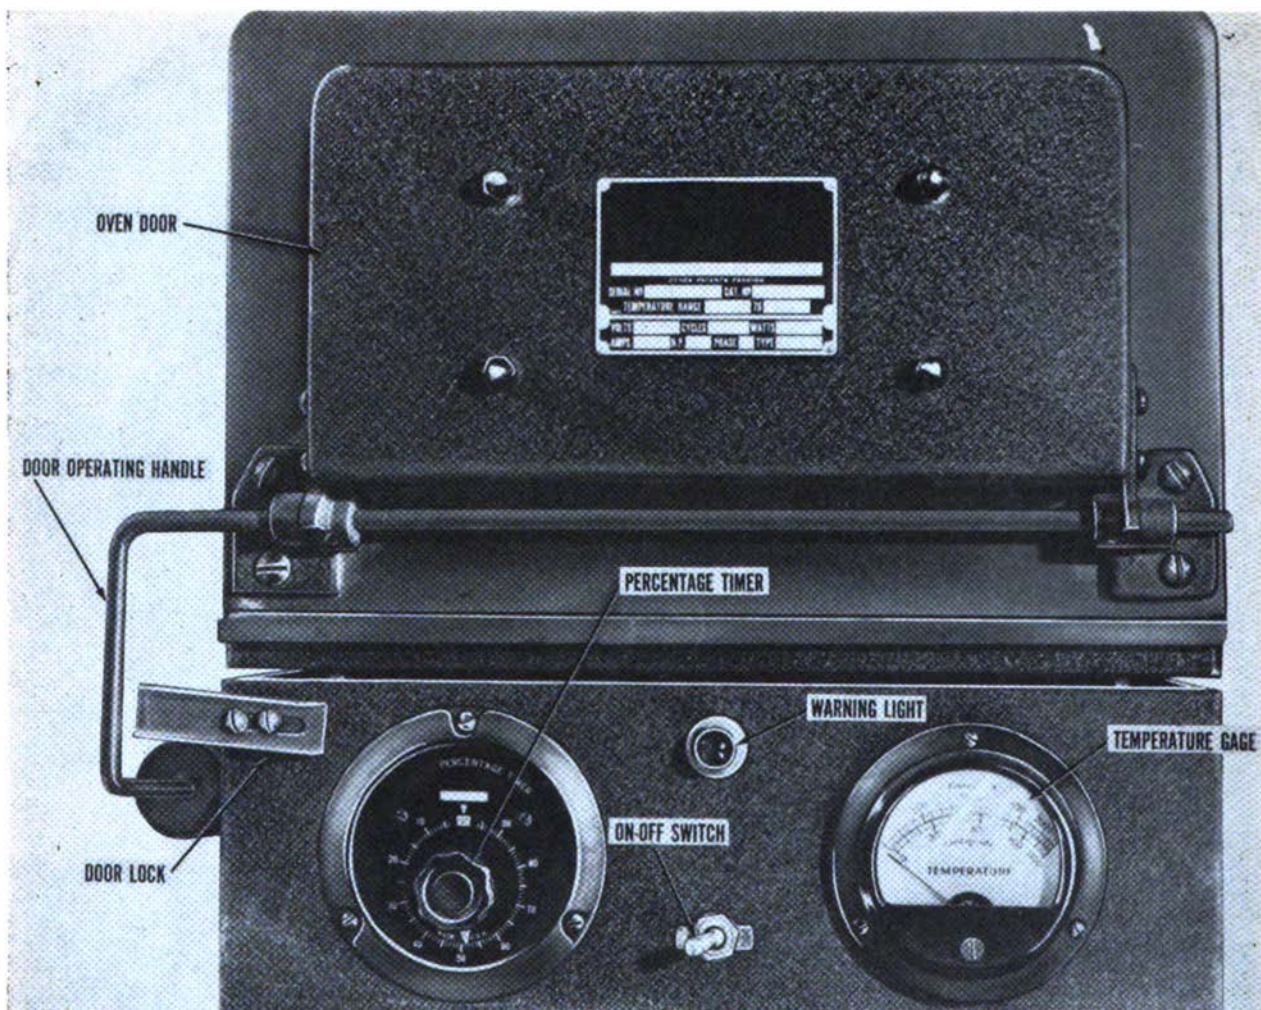

Figure 46. Muffle furnace.
- (1) *Lubricating.* Oil stirrer motor every 1,000 hours of use, applying light lubricating oil (LO).
- (2) *Cleaning.* Clean interior and exterior of bath using clean damp cloth.
- (3) *Adjusting thermoregulator.*
a. Description. The muffle furnace (fig. 46) is located above drawer BD-1. The furnace is used for heat-treating, precipitate-drying, ashing, igniting, and fusing. It has a continuous operating temperature range of from